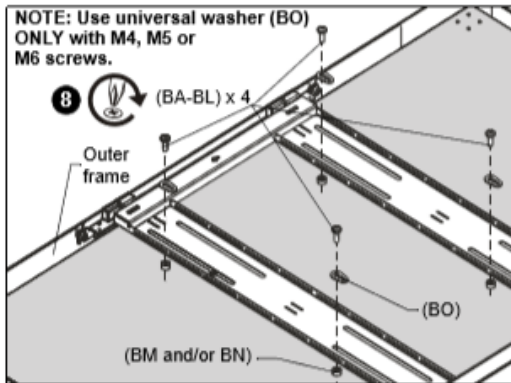

Figure 7
7. Place hinged frame onto back of flat panel and match the VESA pattern on flat panel to the hinged frame mounting slots. Also match the threaded studs in outer frame to the hooks on the hinged frame. (See Figure 7)
8. Use selected screws (BA-BL), washers (BO--if required), and spacers (BM, BN--if required), to connect hinged frame to back of flat panel. (See Figure 7)